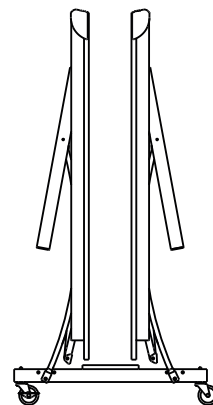

Figure 16
IF TABLE IS NOT ALIGNING CORRECTLY: (see Figure 16)
4. Raise other table half in the same manner as shown in Figure 16.